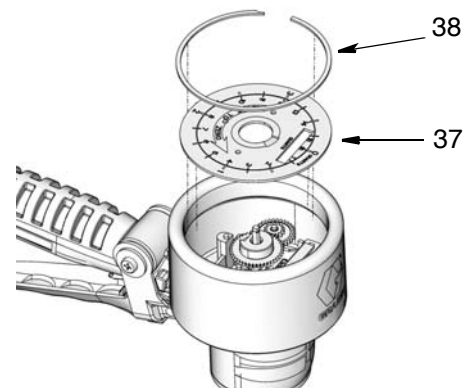

FIG. 17
5. Remove the large retaining clip (38) and then the face plate panel (37) (FIG. 17).